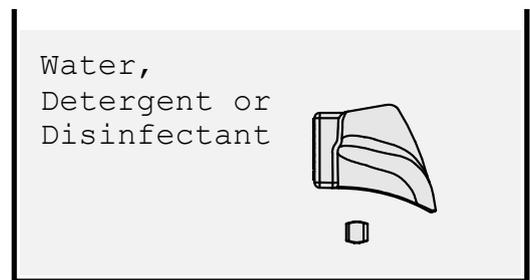

Fig.26 Immersion of the Magnetic sensor attachment and the Spacer for EZU-RV2S
- 2) Immerge the Magnetic sensor attachment and the Spacer for EZU-RV2S into the diluted detergent (see figure 26). Wipe the magnetic sensor attachment under the surface of the detergent solution with a single-use fluff free soft cloth to remove all visible soil.
- 2) Immerge the Magnetic sensor attachment and spacer for EZU-RVS2 into the disinfectant. (see figure 26). Set a clock to insure the recommended contact time is 5 minutes.